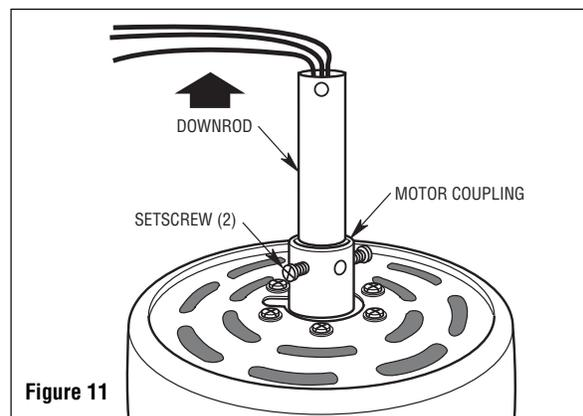

Figure 11
3. While pulling up on the downrod, securely tighten the two setscrews in the motor coupling (Figure 11).